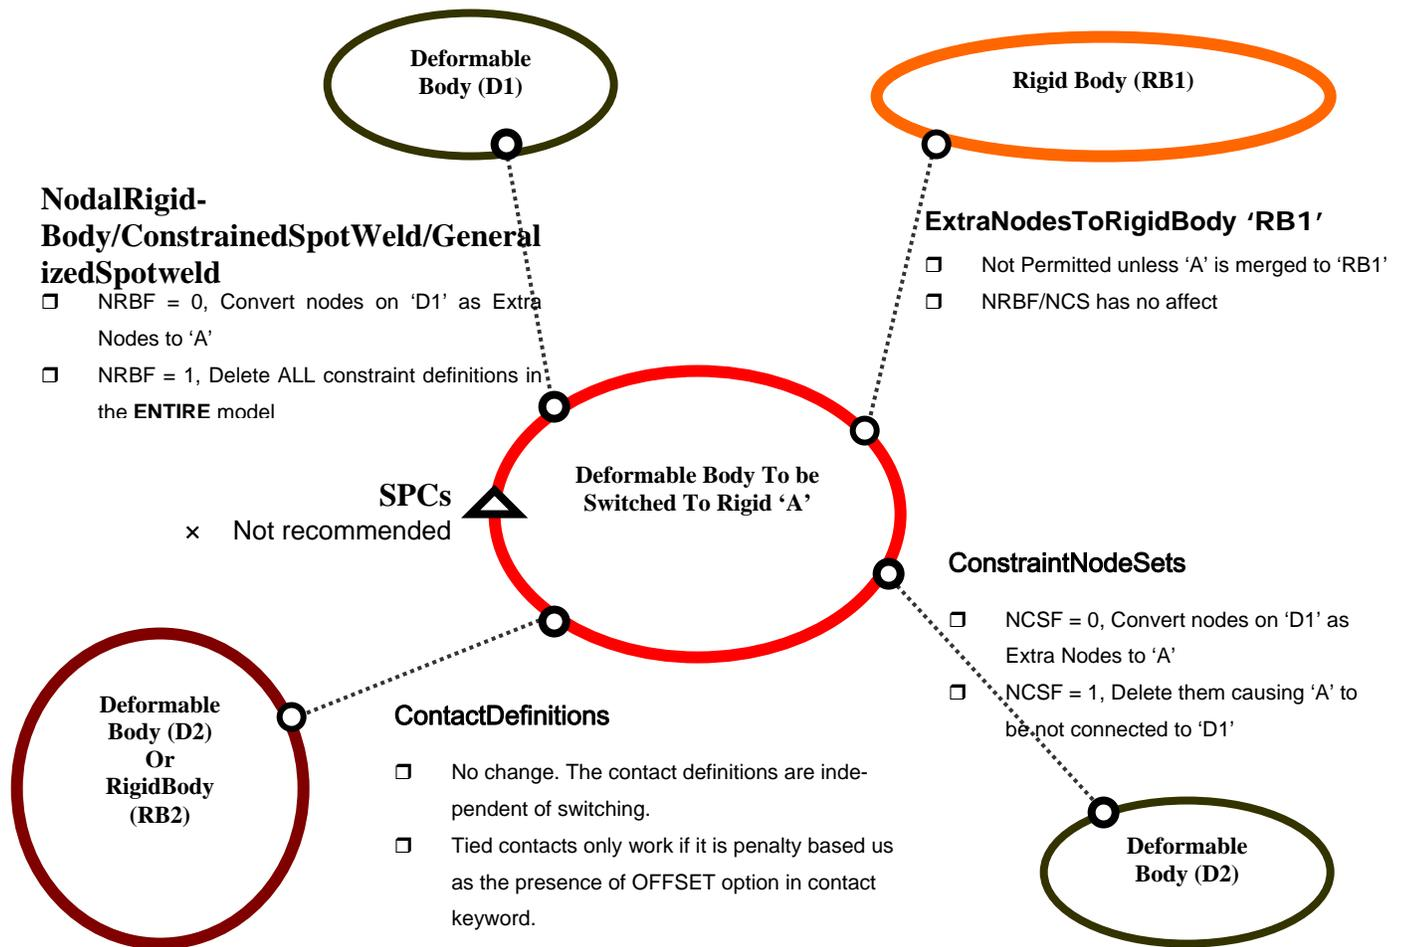

Figure 1.3: Treatment of Connections in Switching
**CONSTRAINED_SPOTWELD* etc, will prevent the formation of the new rigidbody or cause instabilities during the simulation. This is due to the violation of the single constraint requirement on rigidbodies. To overcome this, LS-DYNA allows the user to specify deletion/activation of constraints at the time of switching thereby making it seamless. By default, LS-DYNA internally deletes all constraints that are defined using the nodes of the deformable body before switching. Deleted constraints can be reactivated when the rigidbody is switched back to its deformability. When converting a deformable body to rigid, various types of constraints on the deformable body could exist as shown in Figure 1.3. For each case, LS-DYNA's internal treatment based on the flag values of NRBF and NCSF is illustrated.